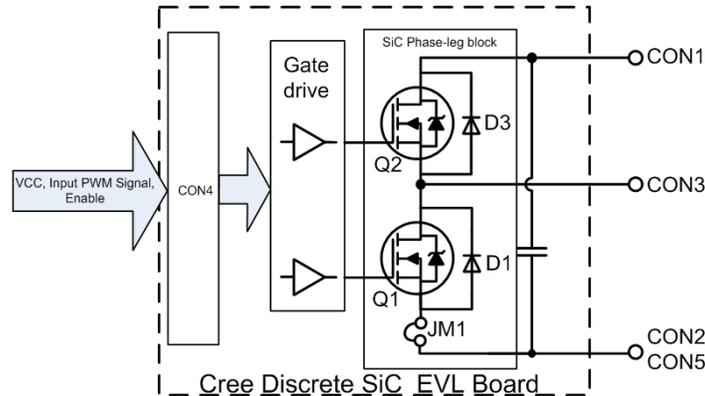

Figure 1. General block diagram of Cree Discrete SiC EVL board
The EVL board's general block diagram is shown in Figure 1. There is a phase-leg which can include two SiC MOSFETs (Q1 and Q2) with half bridge phase-leg configuration and two anti-parallel SiC Schottky diodes (D1 and D3) with Q1 and Q2. The gate drive block with electrical isolation is designed on the board to drive SiC MOSFET Q1 and Q2. There are four power trace connectors (CON1, CON2, CON3 and CON5) and one 10 pin signal/supply voltage connector (CON4) on board.
**Please note that JM1 as shown in Figure 1 is open circuit. It is necessary to short this with a wire or insert a shunt as shown in section 6.2 to complete the circuit before operation.**